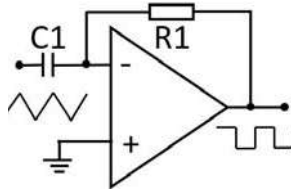

Figure 8. The differentiator.
7. The *differentiator* is designed so that the output of the circuit is proportional to the rate of change to the input. In Figure 8, The rate of change is governed by the values of C1 and R1.